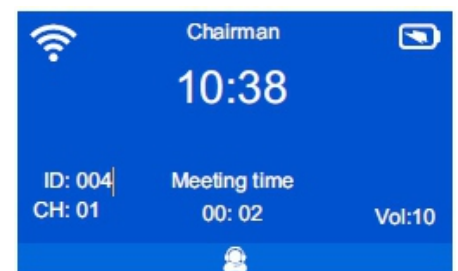

Figure 5.6: Microphone home screen
- Select user symbol from the screen (see figure 5.6).